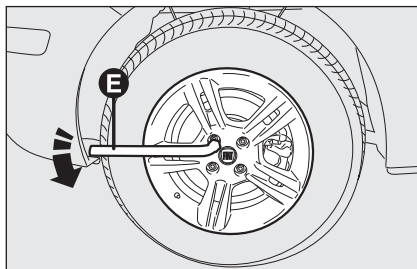

fig. 3
- ☐ loosen the bolts of the wheel to be replaced by about one turn with the wrench provided **E-fig. 3**; if you have alloy wheels, rock the car to make it easier to separate the rim from the wheel hub;